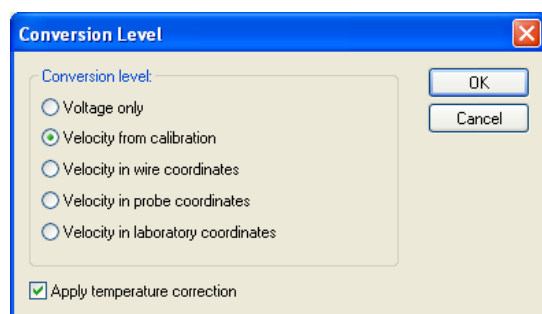

Figure 20: Conversion level window
3. Select the "Options" button. The "Conversion Level" window, as shown in Figure 20, opens.